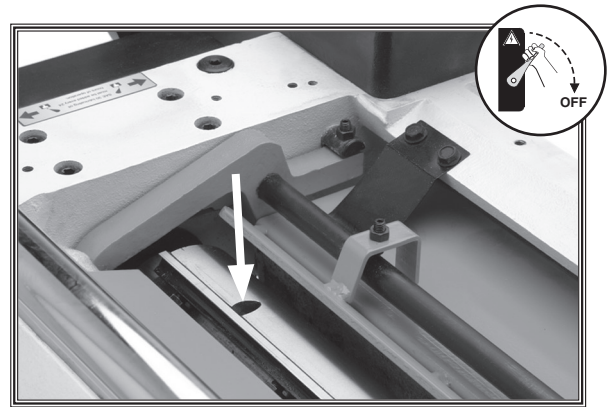

Figure 22. Example of jack screw access hole.
7. **Jack Screws**—Using a 3mm hex wrench, find the jack screws through the access holes in the cutterhead (**Figure 22**) and rotate the jack screws to raise or lower the knife. When the knife is set correctly, it will barely touch the middle pad of the knife setting gauge. Snug the gib bolts tight enough to just hold the knife in place. Repeat **Steps 5-7** with the remaining knives.